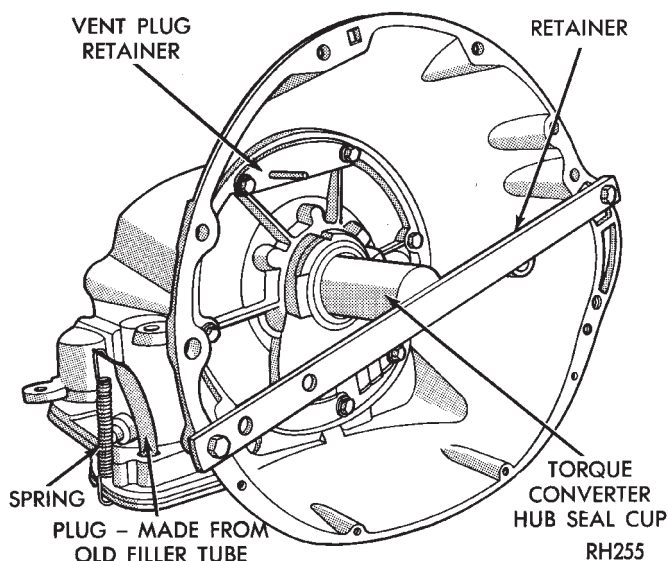

Fig. 12 Vent Plug And Hub Seal Cup Installation
(1) Install vent plug, converter hub seal cup and cup retaining strap (Fig. 12).